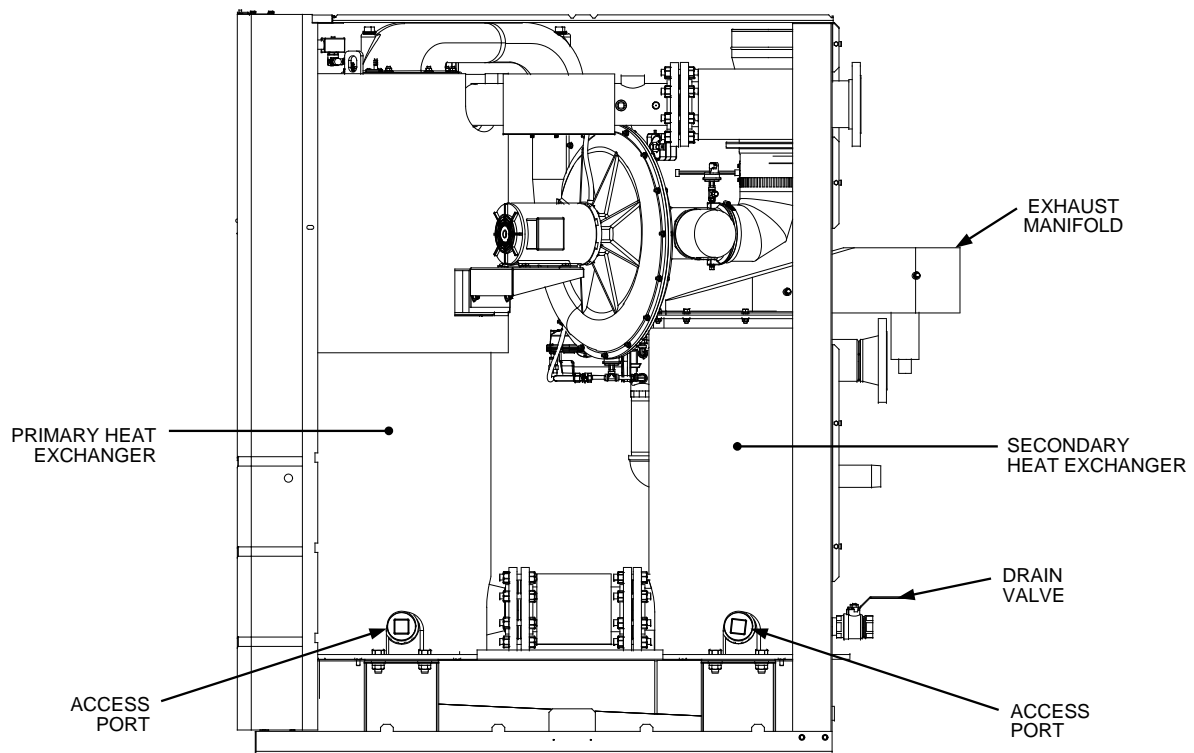

Figure 2. Benchmark 3.0LN - (Right Side View)
Benchmark 3.0LN units contain both a primary heat exchanger and a secondary heat exchanger, as shown in Figure 2. Perform the waterside inspection as follows:
5. After the heat exchangers have been drained, remove the 2-1/2 inch access port plugs on the right side of the primary and secondary heat exchangers, as shown in Figure 2.